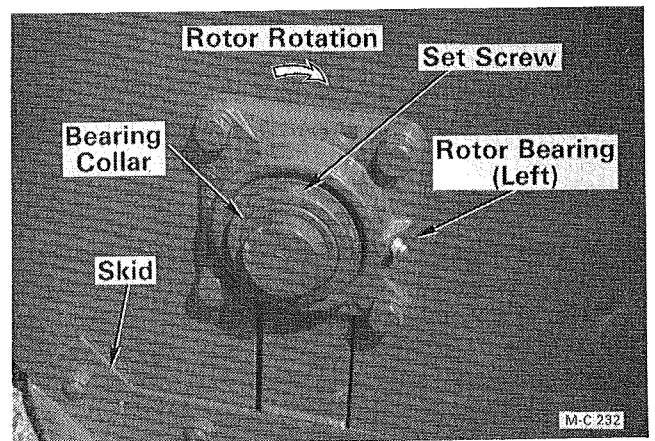

Figure 39
- Clean the end of the rotor shaft with emery cloth. Remove the two set screws in the bearing lock collar and four capscrews securing the bearing to the Shredder body, see Figure 39, and slide the bearing off of the rotor shaft.